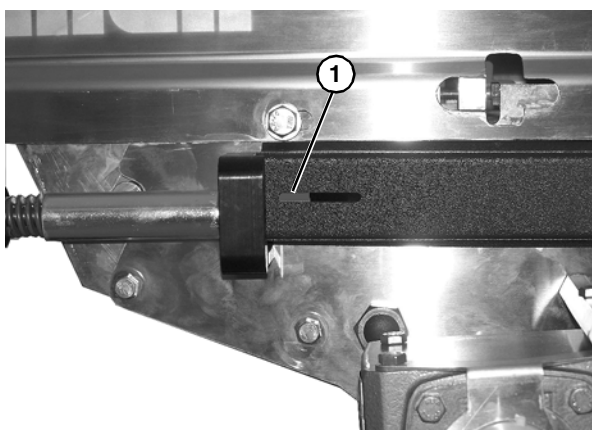

Figure 51
3. If proper belt tension cannot be achieved before the out of tension indicator (**Figure 51, item 1**) begins to turn red, the belt must be replaced.